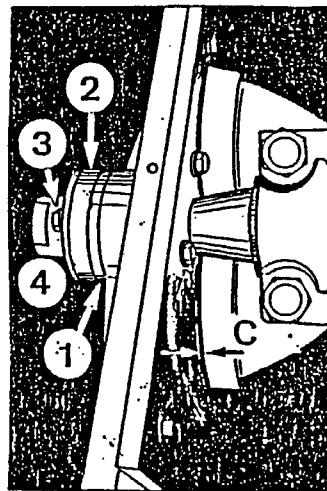

Fig. 1
8. In order to have all the parts "set", remove safety screw 3 (Fig. 1) first and loosen adjusting nut 4 by two turns.